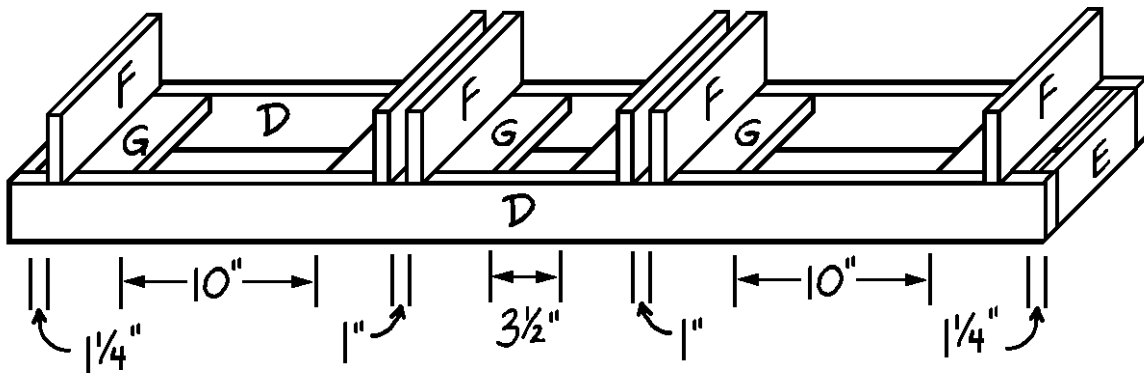

Figure 4
7. Repeat Step 6 five more times, using the remaining five short guides (G) and five long guides (F).
- Now you'll attach the guide assemblies to the first support assembly, as shown in *Figure 4*. Begin on the left side, placing the first guide assembly with its short guide (G) portion inside the first support assembly and with the outer face of its long guide portion (F) 1-1/4" from the inside edge of the support assembly.
- Position the second guide assembly so that the two short guide (G) portions of the first and second assemblies are 10" apart.
- Position the third assembly so that the long guide (F) portions of the second and third assemblies are 1" apart.
- Repeat Steps 8 through 10, working from the right side of the support assembly to attach the remaining guide assemblies, as shown in *Figure 4*.